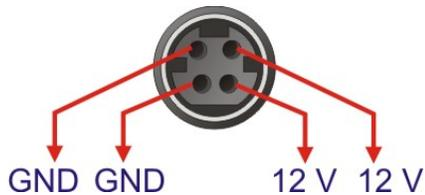

Figure 3-36: 4-pin Power Mini-DIN Connector
- CN Pinouts:** See **Figure 3-36**